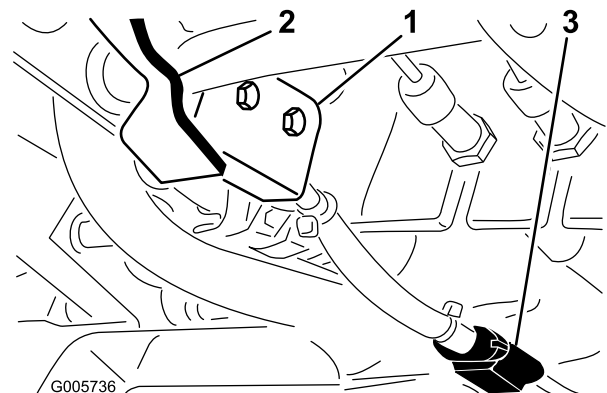

Figure 74
1. Gap between parking brake shaft pivot paddle and bottom of interlock switch (Figure 74) should be approximately 1/16” (Paddle must not contact switch).